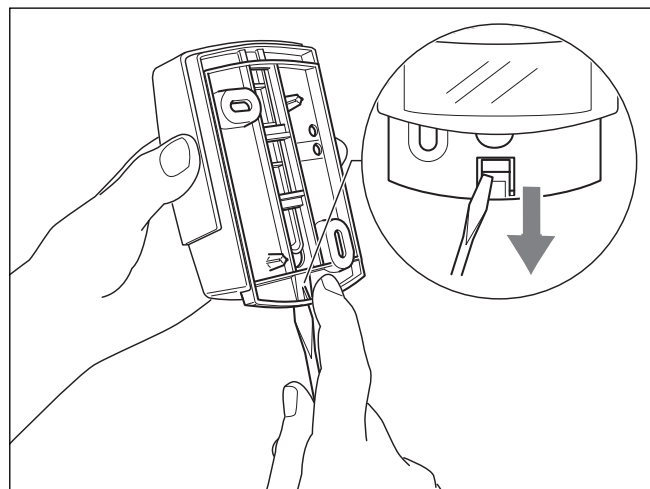

Fig. 4.2 Removing the wall mount
- ⇒ Remove the wall bracket for the wireless outdoor sensor (see Fig. 4.2).